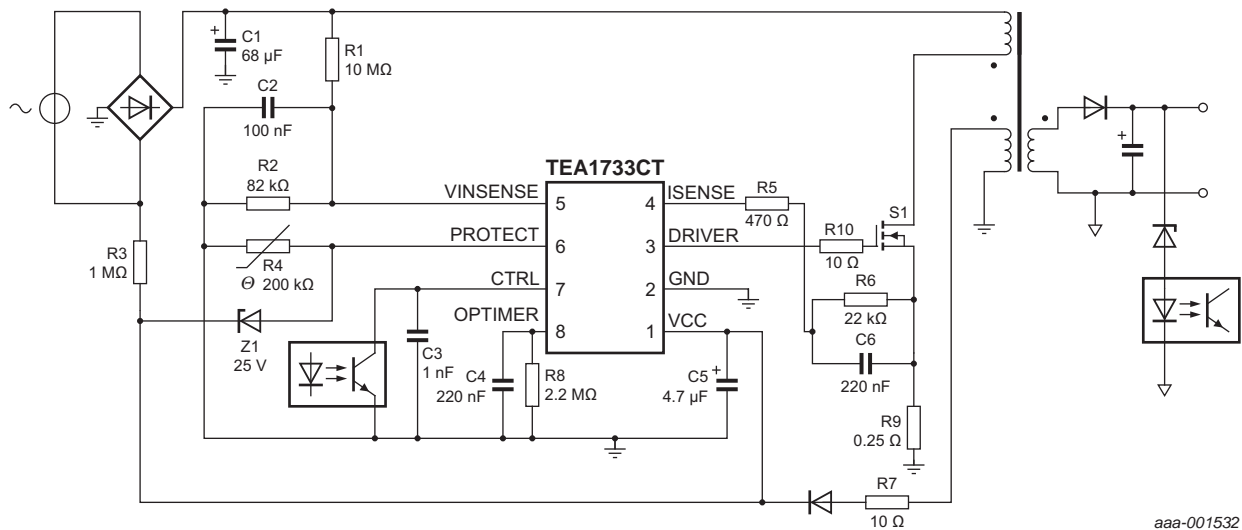

Fig 10. Typical application
A power supply with the TEA1733CT is a flyback converter operating in Continuous conduction mode (See Figure 10).
In the example shown in Figure 10, the PROTECT pin is used for OVP and OTP. Diode Z1 sets the OVP level to $V_{CC} = 25.8\text{ V}$. The Negative Temperature Coefficient (NTC) resistor R4 sets the OTP level. The VINSENSE pin is used for mains voltage detection and resistors R1 and R2 set the start voltage to about 80 V (AC). Capacitor C4 defines the overpower protection time at 60 ms.